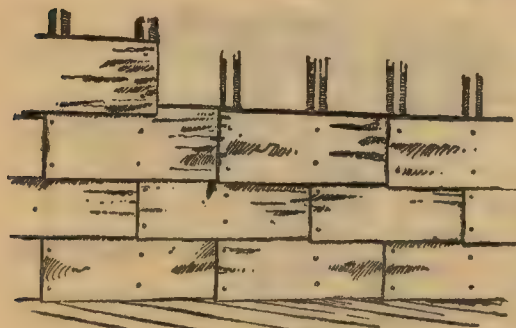

FIG. 19.
*A Fourth Way.*—Place straight sticks vertically about two feet apart; make one face of all the sticks as true to a line as possible; after securing these posts top and bottom place sheets of bark on them horizontally, each piece overlapping the preceding one a few inches (Fig. 19), in the same manner as bark is laid on a roof.